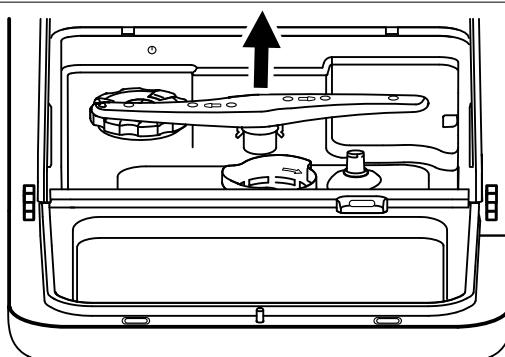

Fig. 25 – Removing the spray arm
- ▶ Remove the spray arm (4) inside the appliance (see Fig. 25) to clean it. Lift this slightly and remove it. Clean the spray arm under running water and check that the openings are not blocked. Reinstall it again afterwards.